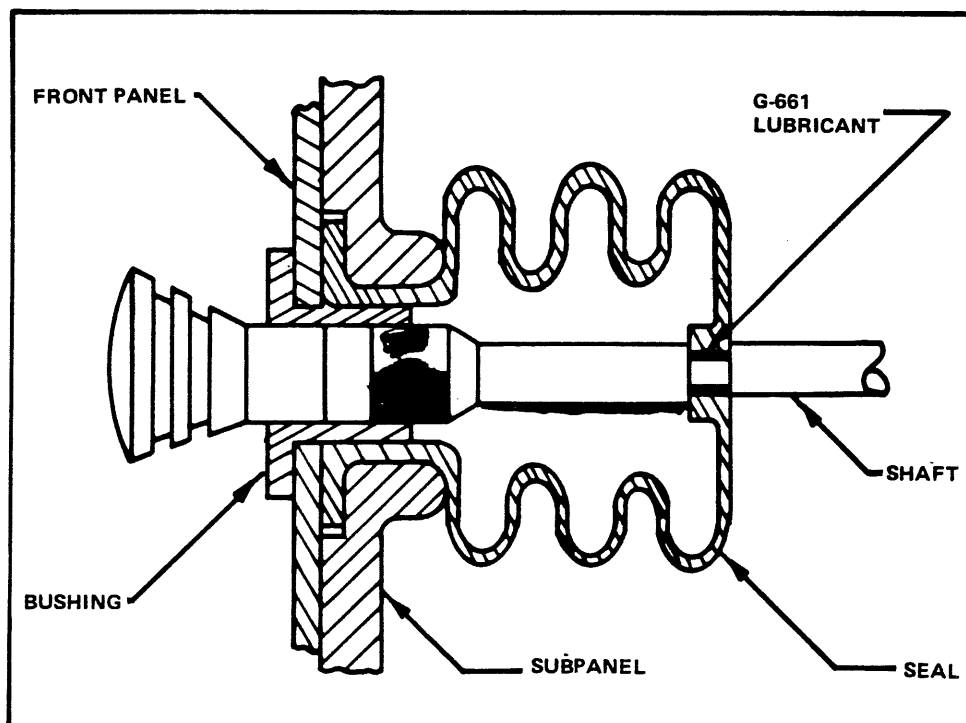

Figure. 25. Installation of the POWER SWITCH.
STEP 26. Install Power Switch Shaft into Front Panel (see Figure 25)
- (1) 1502 TPN 384-1159-01, MPL Item 2-14.
- (2) 1503 TPN 384-1159-01, MPL Item 2-17.
- (1) Insert the bushing into the Power Switch Seal that was previously installed in the Front Panel.
- (2) Apply G-661 lubricant to the detent area of the Power Switch Shaft.
- (3) Install as shown in Figure 25.